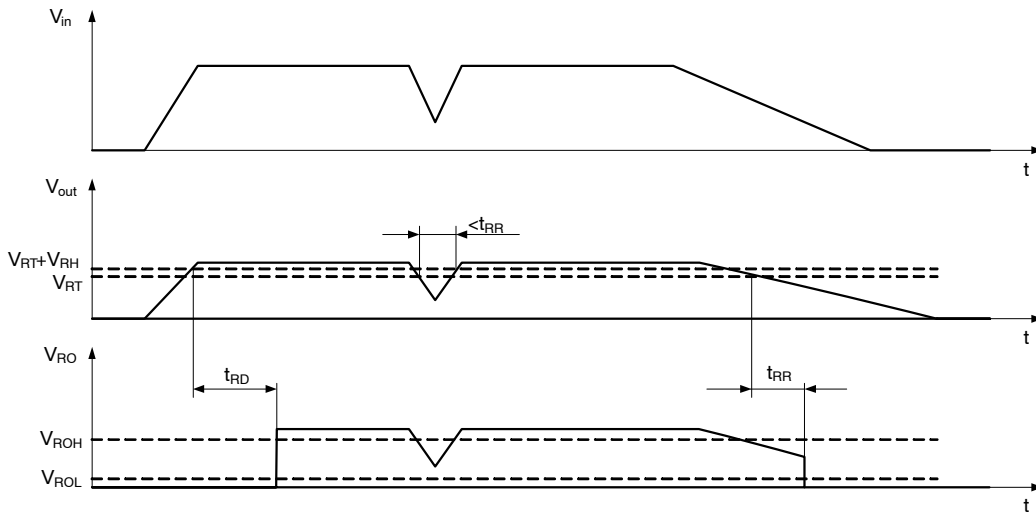

Figure 24. Reset Function and Timing Diagram
A reset signal is provided on the Reset Output (RO) pin to provide feedback to the microprocessor of an out of regulation condition. The timing diagram of reset function is shown in Figure 24. This is in the form of a logic signal on RO. Output voltage conditions below the RESET threshold cause RO to go low. The RO integrity is maintained down to V_{out} = 1.0 V. The Reset Output (RO) circuitry includes internal pull-up connected to the output (V_{out}) No external pull-up is necessary.